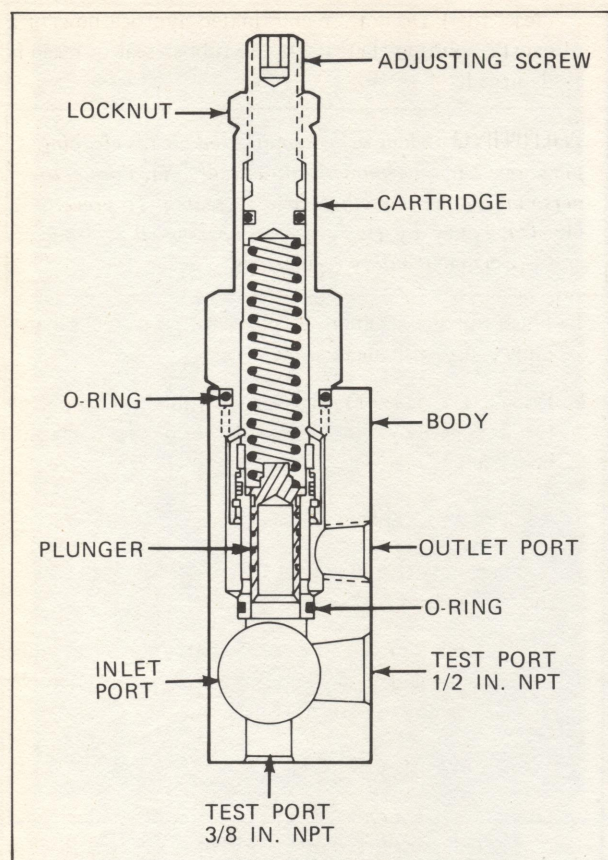

FIG. IX-49. FUEL-OIL RELIEF AND REGULATING VALVE.
1. Install a calibrated 100 psi pressure gage in one of the test ports, Fig. IX-49.
1. Install a calibrated 100 psi pressure gage in a test port, Fig. IX-49.